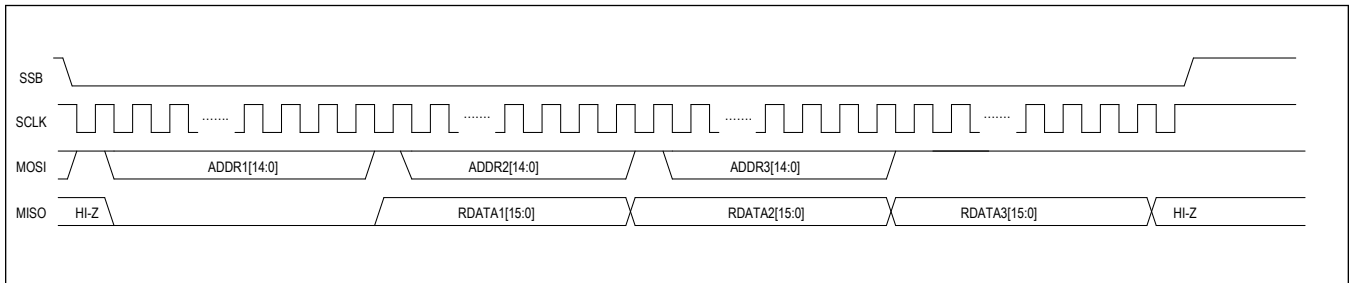

Figure 10. SPI Burst Read Diagram
The IC supports a Burst Read capability. As shown in Figure 10, the host processor sends a write bit (1), followed by a 15-bit address. Afterwards, the host processor can continue to send a read bit (1) and a 15-bit address. The IC responds with 16-bits of data on the MISO for each register address that is sent during the burst read.